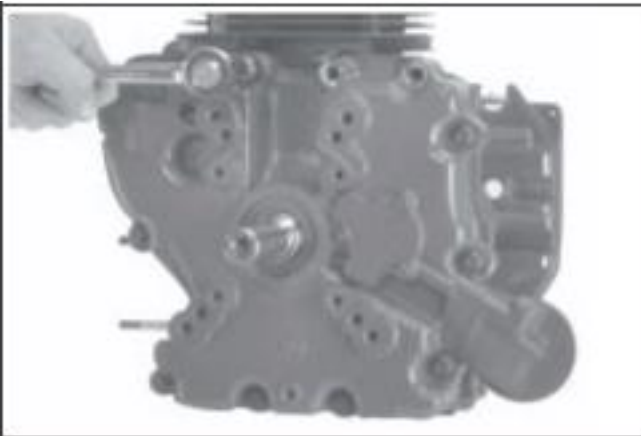

Figure 9-41. Removing Closure Plate.
1. Remove the twelve hex flange screws securing the closure plate to the crankcase. See Figure 9-41.